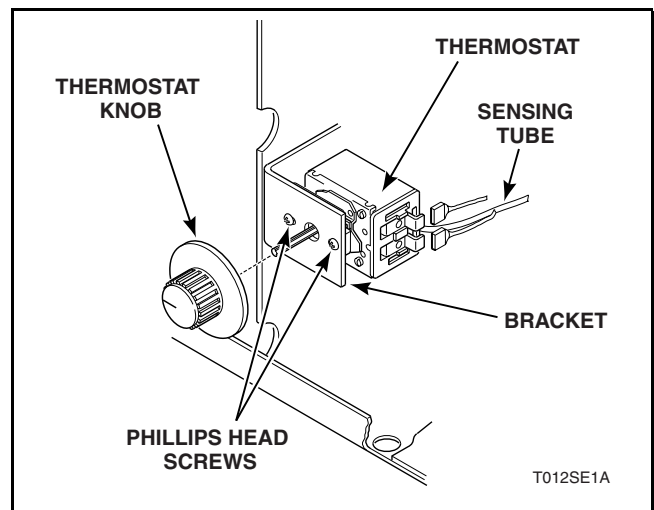

Figure 13
- b. Pull knob off thermostat. Refer to *Figure 13*.